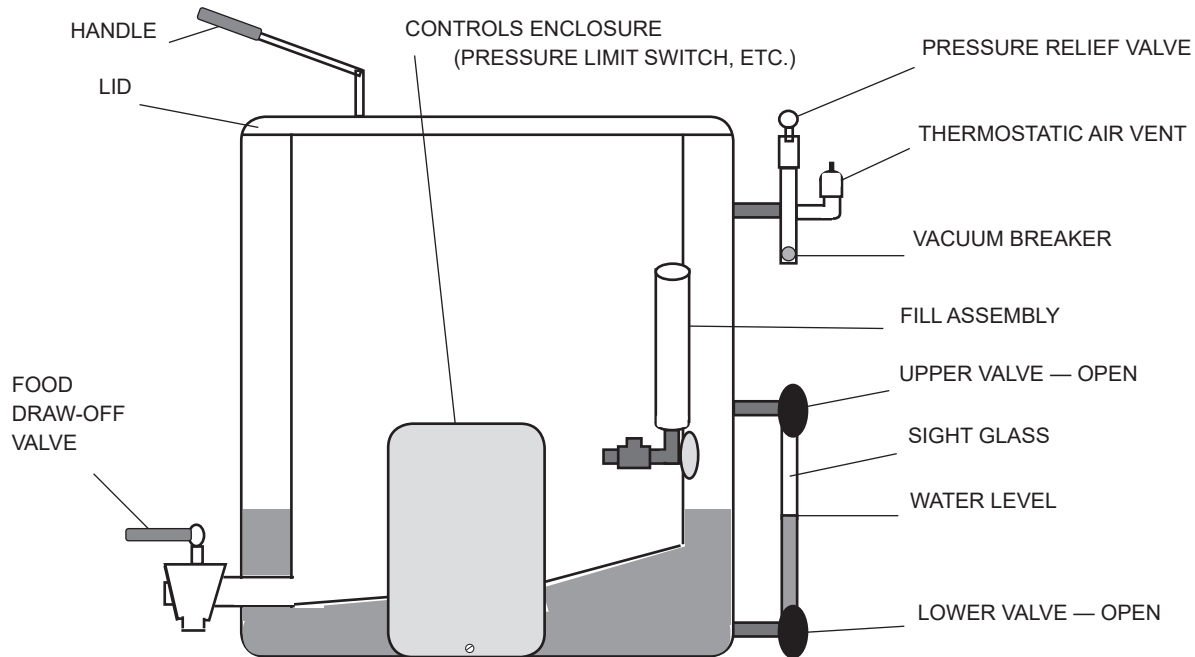

Fig. 2
## KETTLE FEATURES — COMMON TO ALL CONSTRUCTIONS (FIG. 2)
4. Replace the control panel cover and screw. Check proper jacket water level: Refer to Fig. 2, page 10, and Jacket Water and Jacket Water Treatment, page 16.